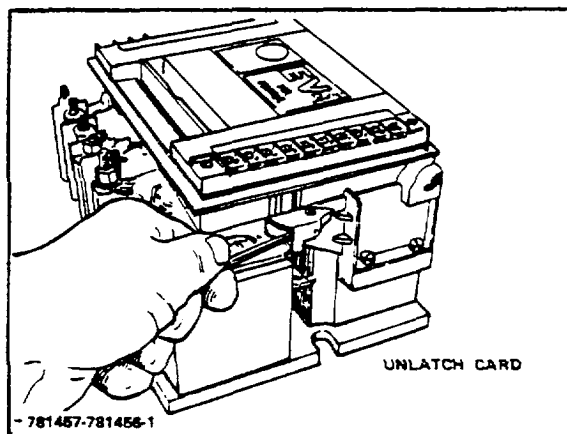

Figure 4-7. Control Card Latches
- (1) Pry open the latches on both sides of the card with a screwdriver (Fig 4-7).